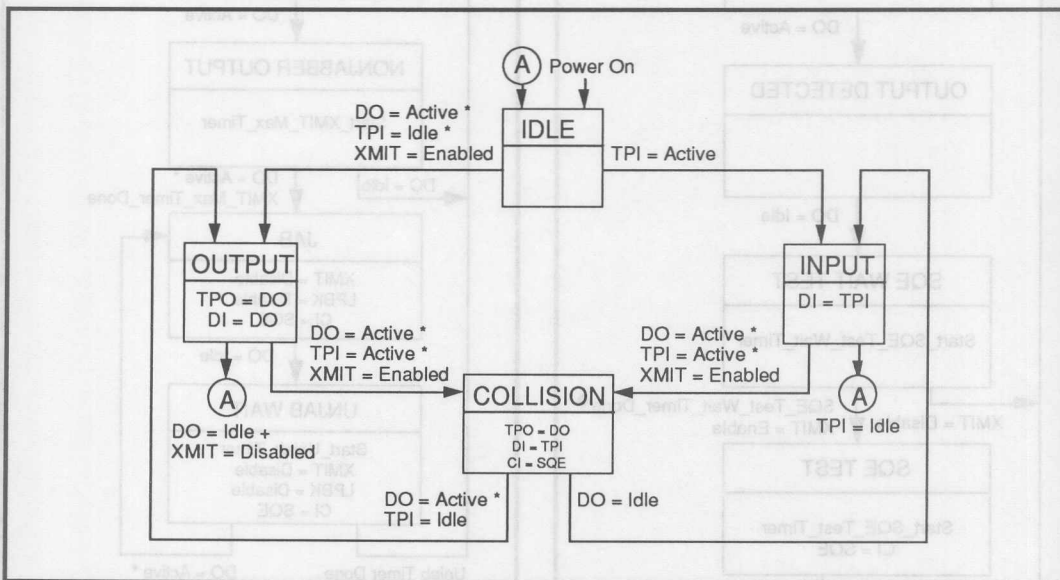

FIGURE 2: Collision Detection Function
The collision detection function operates on the twisted pair side of the interface. A collision is defined as the simultaneous presence of valid signals on both the TPI circuit and the TPO circuit. The SSI 78Q902 reports collisions to the AUI by sending a 10 MHz signal over the CI circuit. The collision report signal is output no more than 9 bit times (BT) after the chip detects a collision. If the TPI circuit becomes active while there is activity on the TPO circuit, the TPI data is passed to the DTE over the DI circuit, disabling the loopback. Figure 2 is a state diagram of the SSI 78Q902 collision detection function (refer to IEEE 802.3 10Base-T specification).